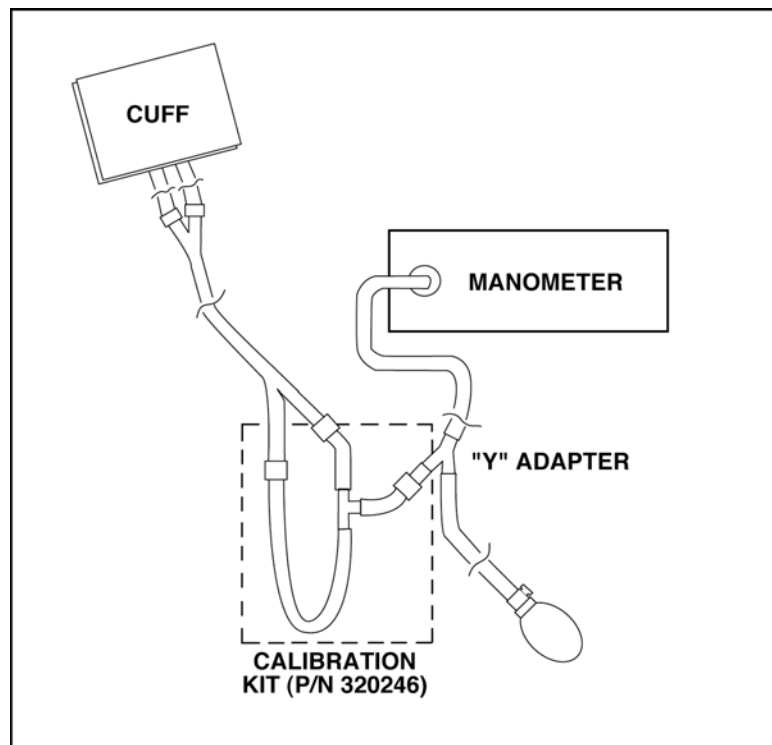

Figure 4-2 Leak Test Setup
7. Using the calibration kit (part number 320246), an adult cuff and air hose, and a manometer, set up the equipment as shown in Figure 4-2.